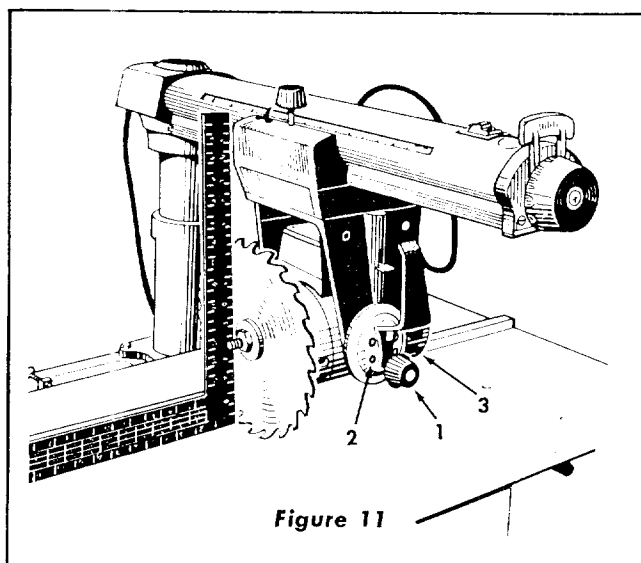

Figure 11
1. Place the edge of a square on table top and position as shown in Figure 11. Square must be held firmly against table top.
- a. Loosen bevel lock knob (Item 1, figure 11). Use 7/32 hex "L" wrench and slightly loosen four socket head screws (Item 2, figure 11).
- c. Retighten socket head screws (Item 2, figure 11) and bevel lock knob (Item 1, figure 11).
- e. Indicator (Item 3, figure 11) should read 0° on bevel index scale. If not, loosen screw and adjust indicator. Retighten screw.